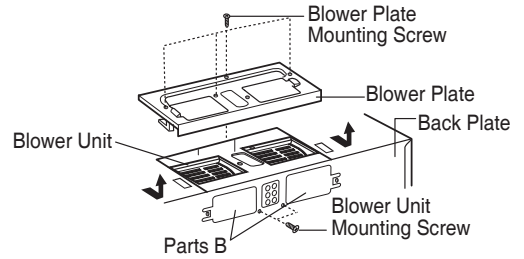

Figure 12
1. Remove one or two blower unit mounting screw(s) and one or several blower plate mounting screw(s). Remove the blower plate from the cabinet. See Figure 12.